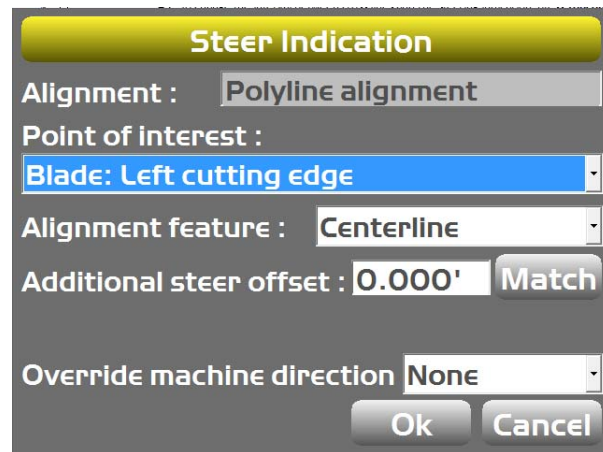

Figure 28: Changing the Steer Indication
3. To change the steering indication, press the **Topcon Menu Button** and tap **Control ► Steer indication**; enter the desired changes and tap **OK**.(Figure 28).